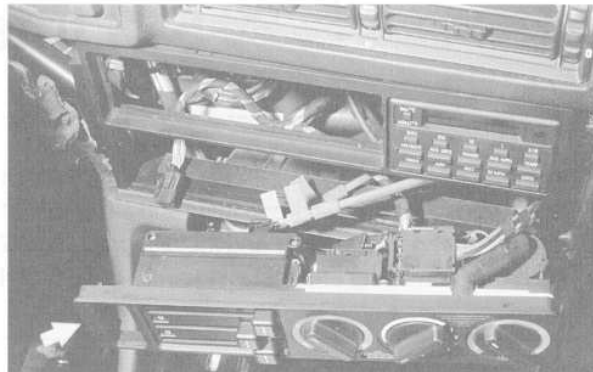

Fig. 5. Remove heater control panel by prying out from left side (arrow).
12. Pry out heater control unit just far enough to disconnect connectors and cables from back of unit. See **640 Heating and Air Conditioning**. Remove heater control panel. See Fig. 5.